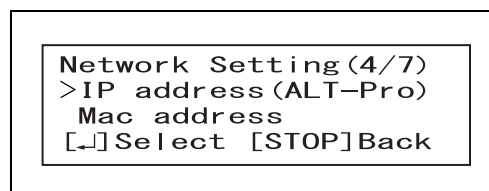

Figure 7.66
- 12** To set the IP address of the ALT-Pro, select the value of each flashing digit by operating the ▲ and ▼ buttons and press the ENTER button to enter the value. When the last value has been entered, the LCD returns to the screen immediately before the current screen. (See Figure 7.66)